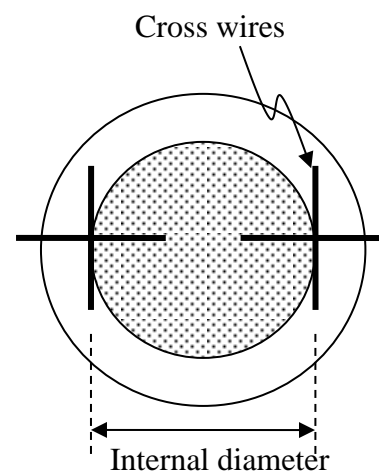

Fig. 1.4
- (i) First, position the cross wires of the traveling microscope at one end of the tube as shown in Fig. 1.4 and record the vernier reading (say reading A)